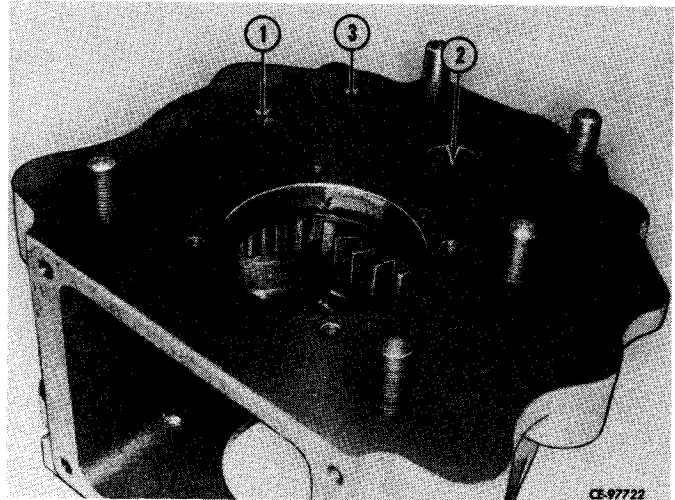

Figure 4-27
Using a suitable punch, drive reverse idler gear shaft (1, Fig. 4-27) and reverse countershaft gear shaft (2) out through transmission housing and gears. Remove both gear assemblies from housing.